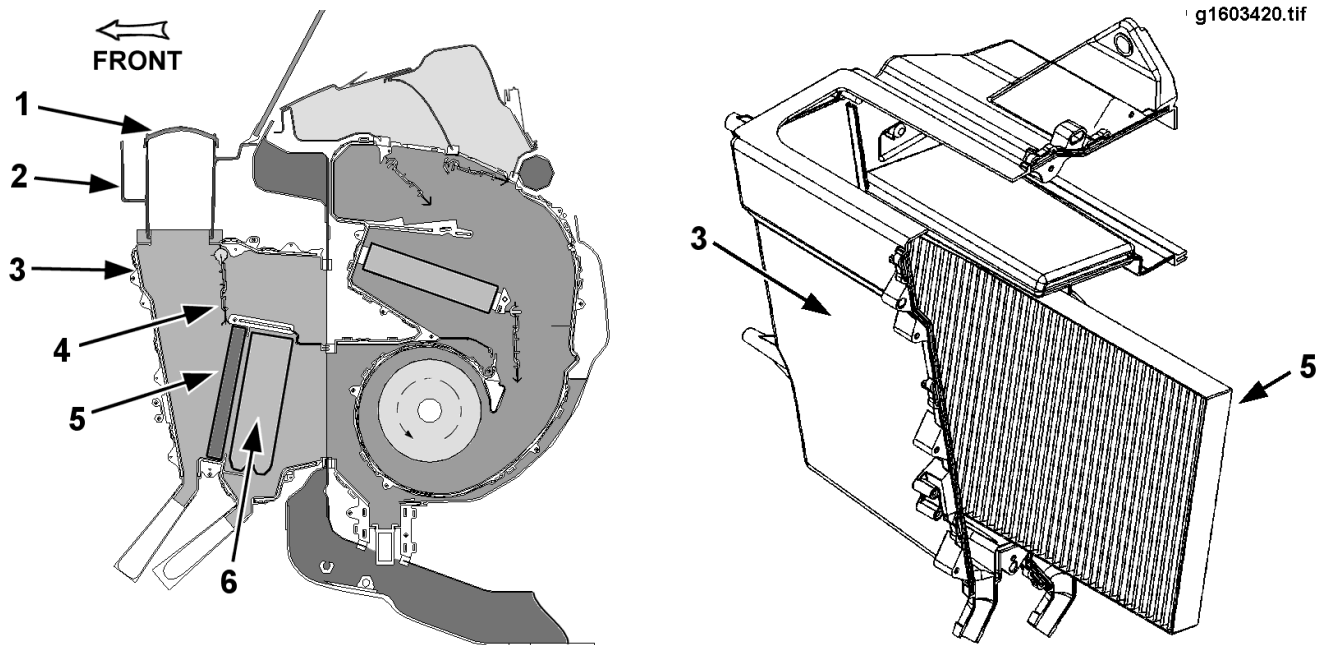

Figure 20 Cutaway View of Evaporator Housing
2. Verify that fresh/recirculate air door is open (4, Figure 20). This can be done by looking into cowl tray air inlet.
4. Reaching into the HVAC air inlet, located in evaporator housing (3, Figure 20), remove air filter (5) by compressing top of filter, tipping it to the front, and lifting it straight up.
1. With the filter pleats vertical, place filter (5, Figure 20) into evaporator housing (3) through air inlet.